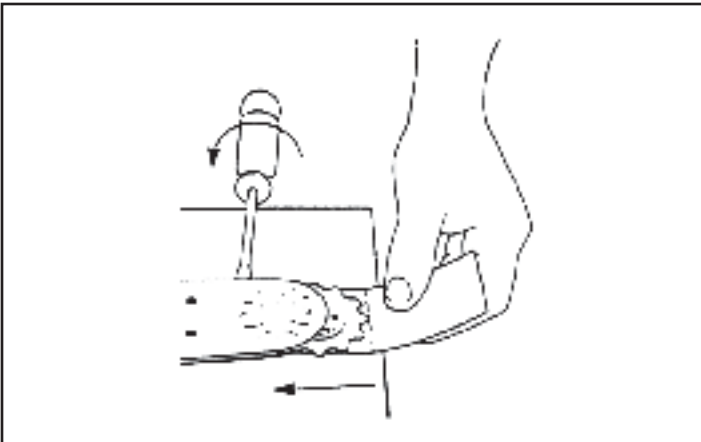

Figure 27. Installing a New Nose Sprocket
4. With a flat blade screw driver in the bar nose rails, slide the nose sprocket assembly into position aligning the 6 holes in the bar nose with the 6 holes in the nose sprocket assembly without removing the components from the card. See Figure 27.